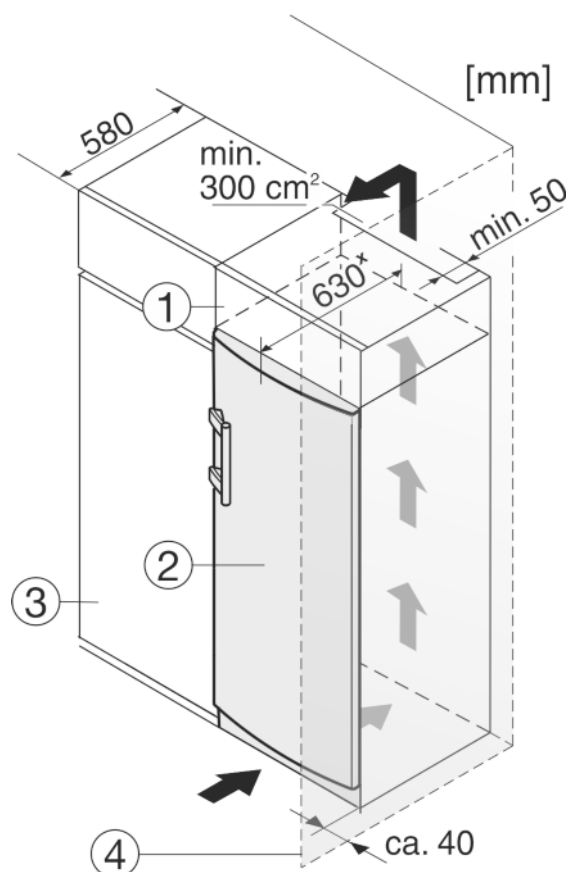

Fig. 8
The appliance can be inserted into a row of kitchen units. To match the appliance Fig. 8 (2) to the height of the row of units, a suitable stack cabinet Fig. 8 (1) can be fitted above the appliance.
When installing with kitchen units (max. depth 580 mm), the appliance can be positioned directly next to the kitchen cabinet Fig. 8 (3). The appliance will project by 34 mm\* at the sides and 50 mm\* in the centre of the appliance in relation to the kitchen cabinet front.
If the appliance is installed with the hinges next to a wall Fig. 8 (4), the distance between appliance and wall has to be at least 40 mm. This corresponds to the projection of the handle when the door is open.